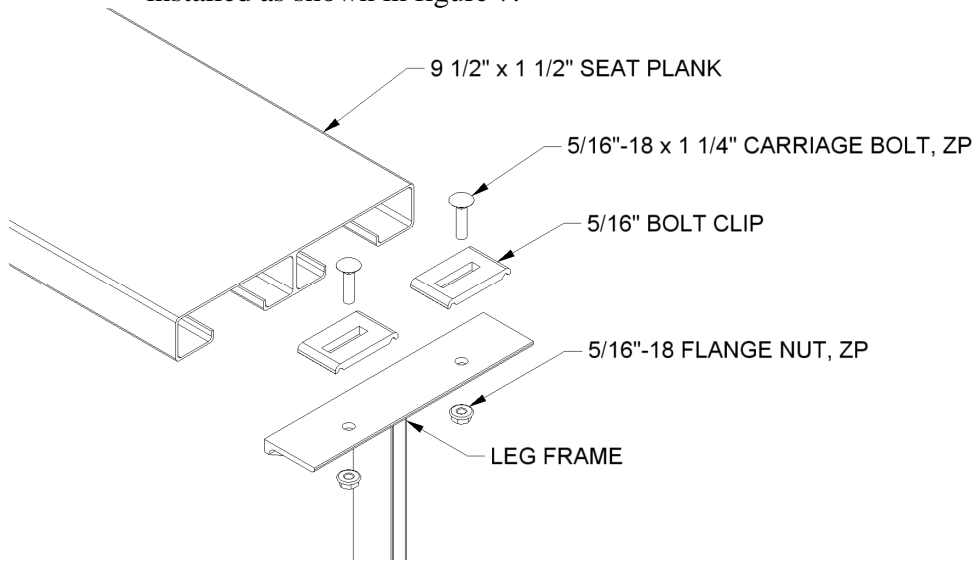
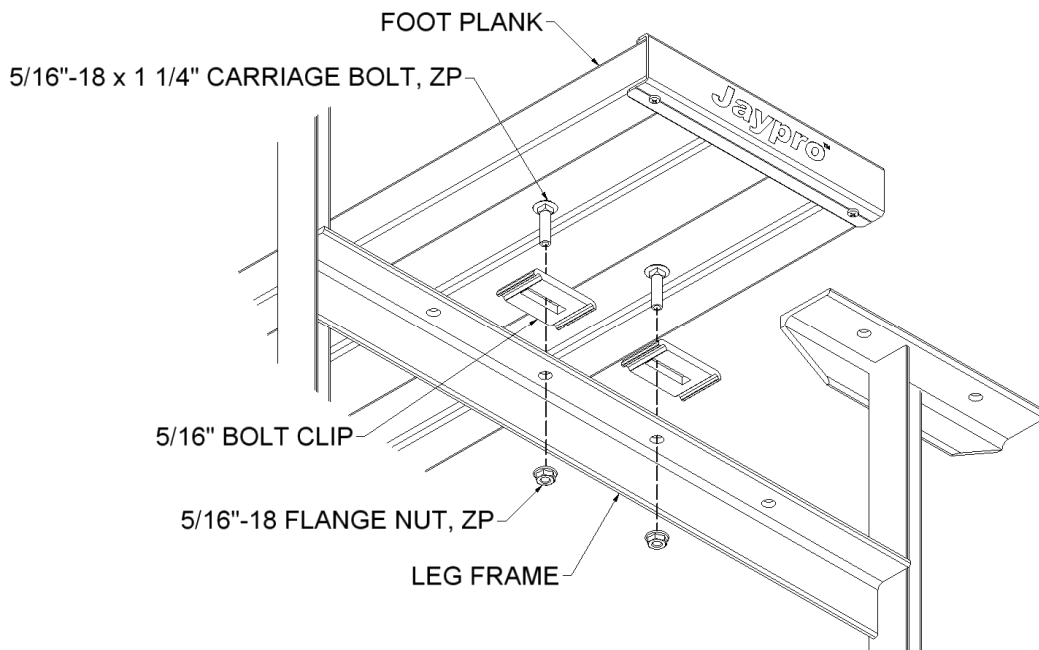
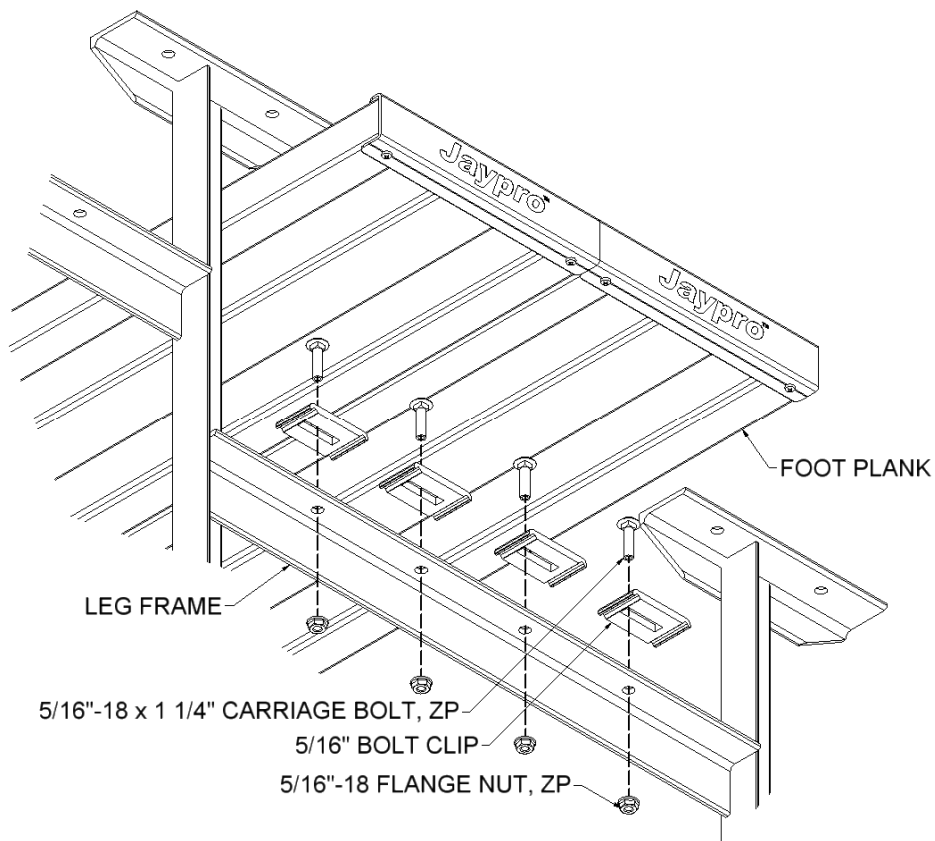

FIGURE: 5
FIGURE: 6
FIGURE: 7
5. Making sure the undercarriage frame is square and plumb, install the seat and foot planks. The seat and foot planks are best installed starting from the front seat and working towards the back. Use the hardware and bolt clip as shown in figure 5. Position planks so they are centered on the frame, with equal amount of overhang on each end. Note that standard bleachers (BLCH-421AL & BLCH-421TRG) have a single foot plank, which is centered on the support frame, see figure 6. Preferred bleachers (BLDP-421AL & BLDP-421TRG) have double foot planks and are installed as shown in figure 7.